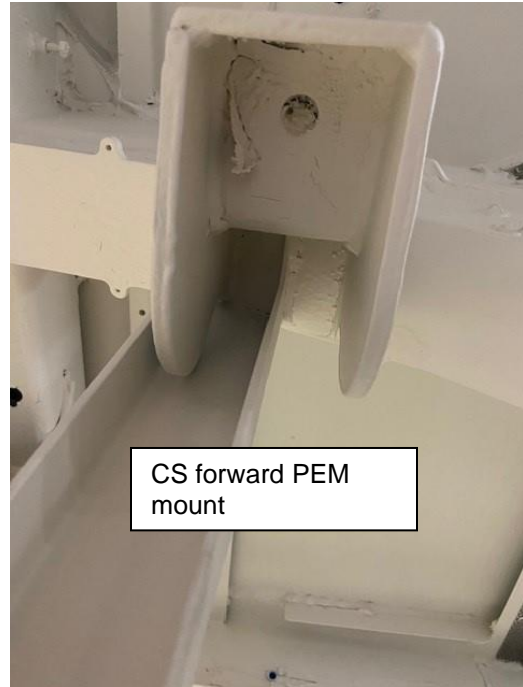

FIGURE 2: SHOWN VIEW OF MISSING WELD – INSPECT TO SEE IF ALL WELDS COMPLETE (MISSING WELD NEAR END)
6. Inspect to see if weld is incomplete as shown below (Figure 2). Welds should be complete as shown in Figure 3.